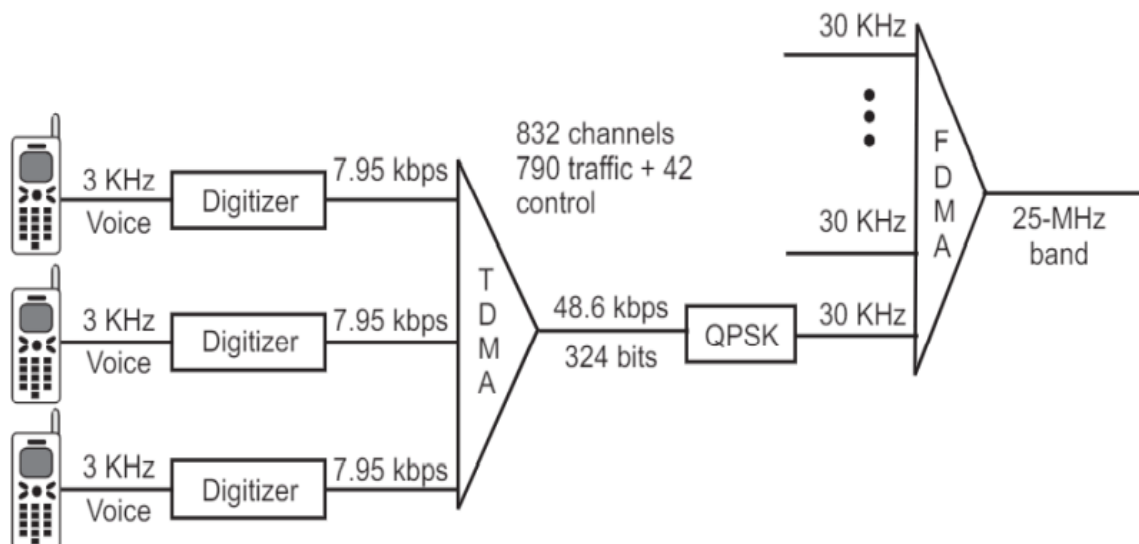

Fig 5.9 D-AMPS
- Each slot has 324 bits-159 data, 64 control, 101 error correction as shown in Fig 5.9.
- The forward and backward transmissions are shown in Fig 5.9.